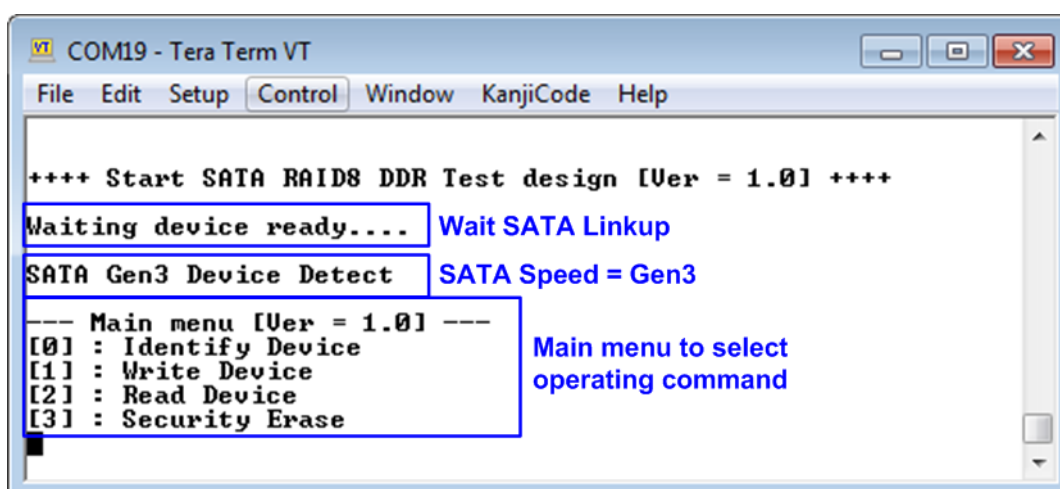

Figure 2-6 Main menu after programming configuration file and RAID0 initialization complete
10)After programming completely, LED[0] and LED[1] are ON during RAID0 initialization process. Then, LED[1] changes to OFF to show that RAID0 completes initialization process and system is ready to receive command from user. After that, main menu is displayed as shown in Figure 2-6.